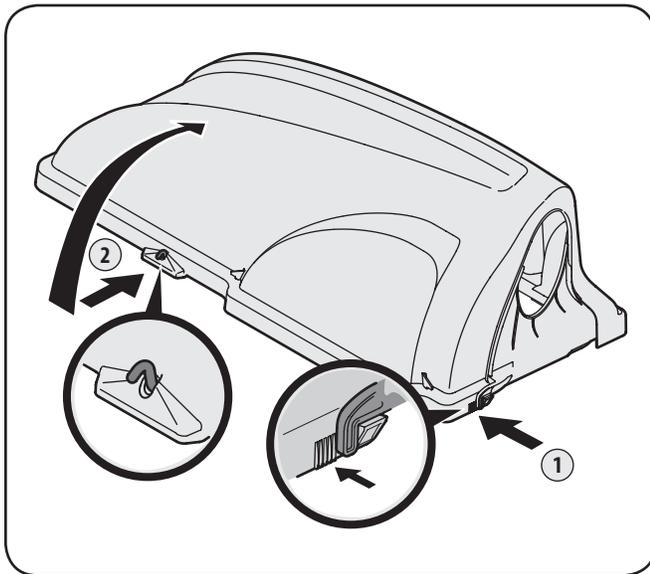

Figure 5-1
2. Lift up grass bag cover by pushing in on the rear, right-side tab with your right hand, as seen in 1 of Fig. 5-1, and lifting the cover with your left hand in the center rear of the bagger cover, 2. Do not remove the chute tube assembly from the tractor.